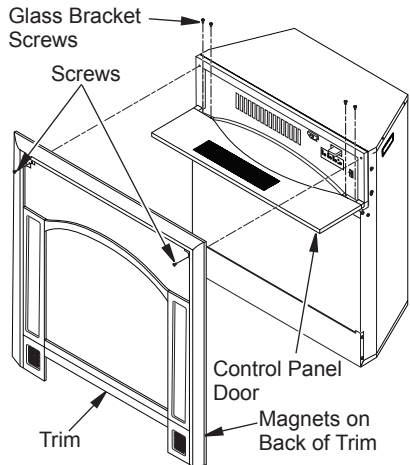

Figure 8 - Removing Trim
2. Remove 2 screws holding front trim in place. Pull gently to remove trim (see Figure 8). There are magnets on the lower portion of trim (see Figure 8)
3. With gloves and safety glasses in place, remove 4 screws from glass retainer brackets (see Figure 8).